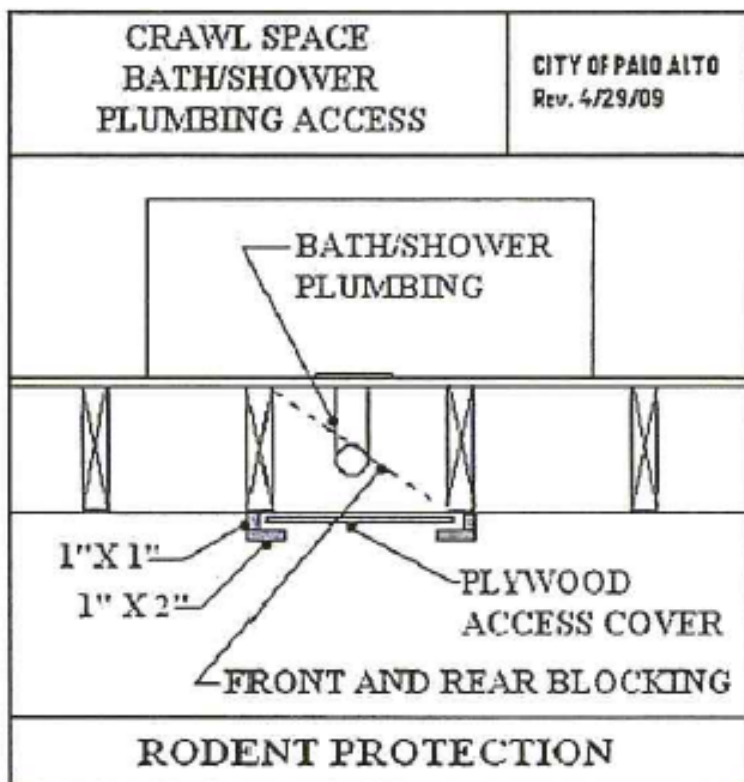

FIGURE A-2
- Tub waste openings in framed construction to crawl spaces shall be protected from rodent intrusion with no openings greater than 1/2". See **FIGURE A-2** for an approved method of protection/access. CPC 313.12.4